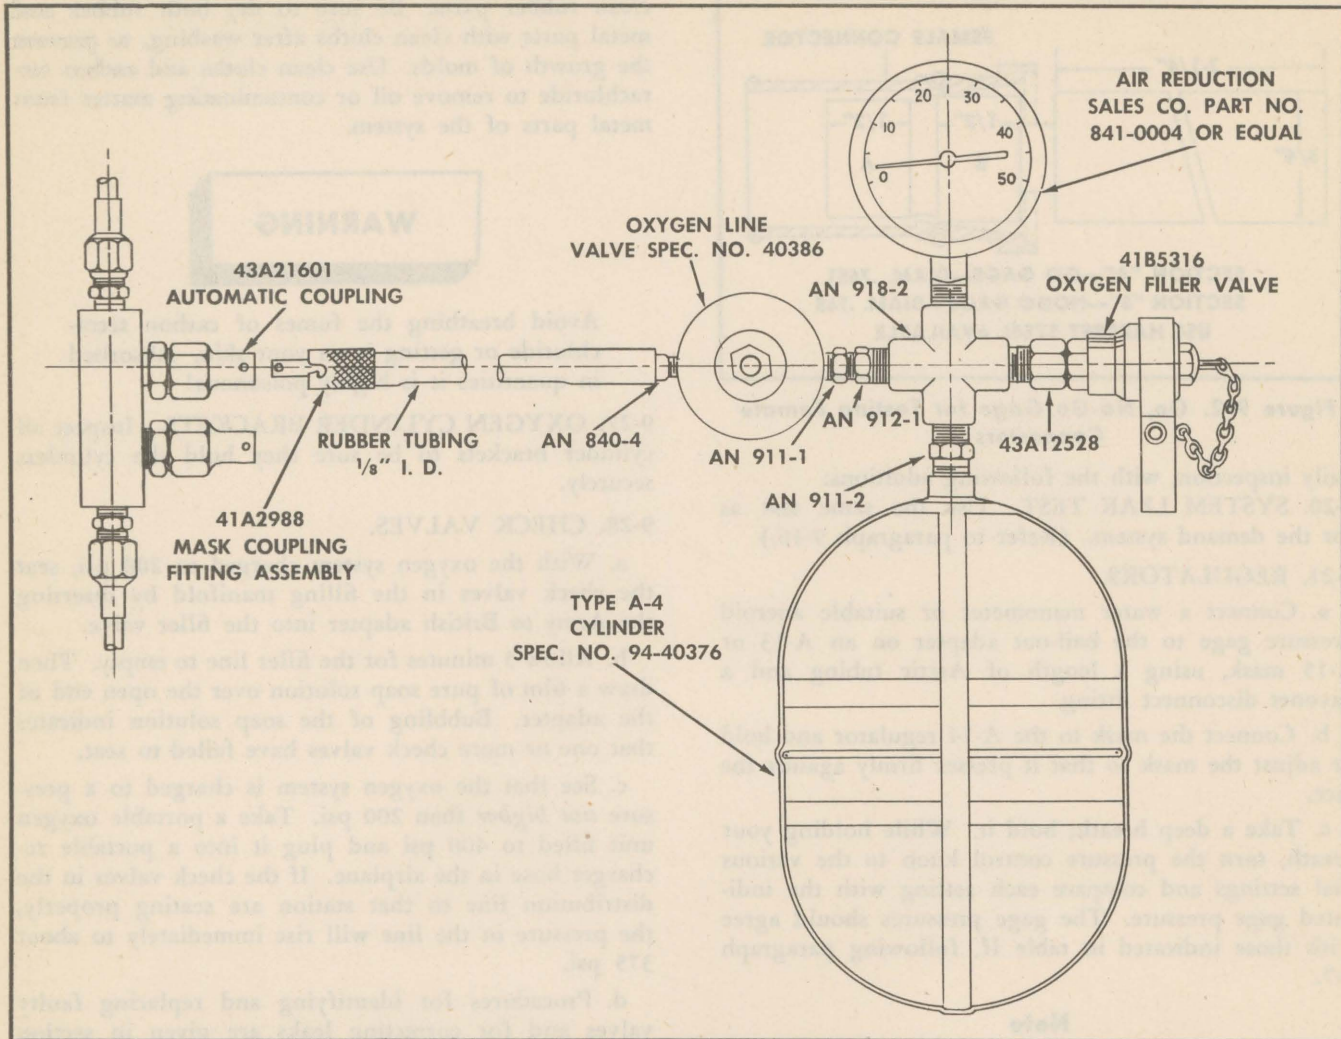

Figure 9-3. Oxygen System Leak Tester
**9-34. TROOP OXYGEN SYSTEM LEAK TEST.** In airplanes having a troop oxygen system, test each section of the delivery lines as described following. Use the troop oxygen system leak tester, AAF Drawing No. 44B10627. (See figure 9-3.) This leak tester is not carried in stock, but can be made locally.